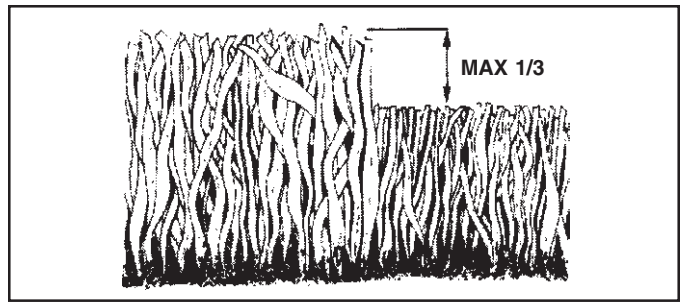

FIG. 10
- For best results, adjust the lawn mower cutting height so that the lawn mower cuts off only the top one-third of the grass blades (See Fig. 10). If the lawn is overgrown it will be necessary to raise the height of cut to reduce pushing effort and to keep from overloading the engine and leaving clumps of mulched grass. For extremely